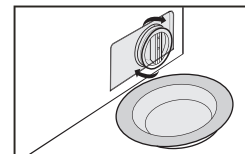

Fig 20
3.Reinstall each part back after sundries matters are removed (Fig20) .